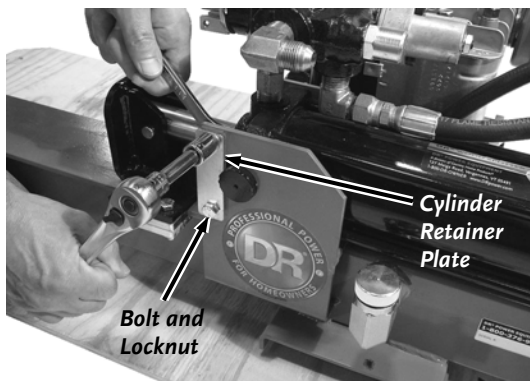

Figure 6
- Install the two Cylinder Retainer Plates using four 5/16 x 3/4 inch long Hex Bolts and Locknuts (**Figure 6**). Tighten the Nuts securely (1/2 inch wrenches).